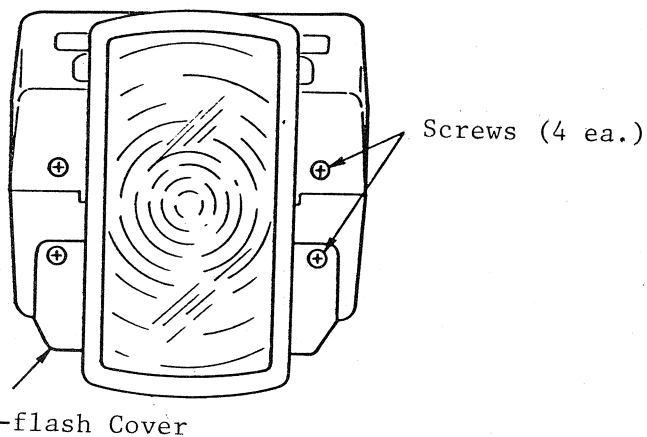

Fig. 2
3.1 After removing the shoe unit, turn the flash head as shown for access to the four screws at the top of the main body of the flash. (Fig. 2) Remove the screws.